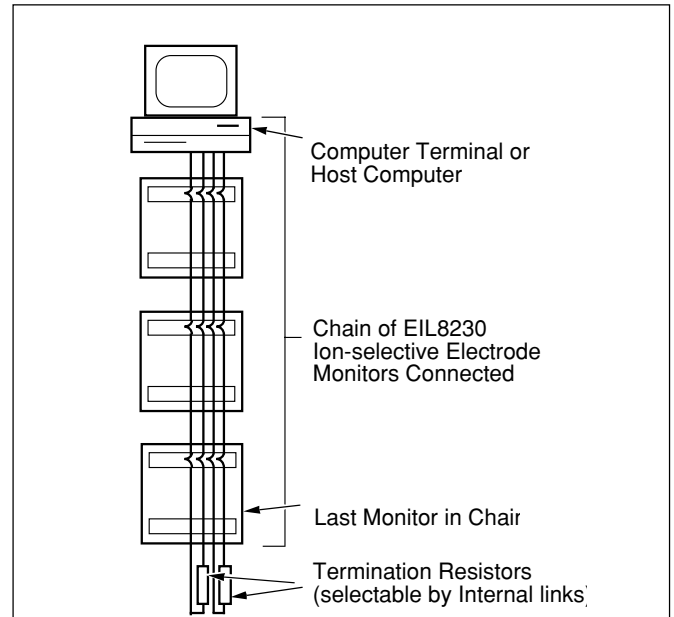

Fig. 3.1 RS422 Connections – Schematic Diagram
3.1 RS422 Connections – Figs. 3.1 and 3.2
Connect the monitors in parallel as shown in the schematic diagram – Fig. 3.1. The RS422 standard quotes connection of ten slaves (EIL8230 series of microprocessor-based ion-selective electrode monitors) maximum to any one driver (computer terminal or host computer). However, this number can be increased if the driver's serial port permits.
N.B. Transmission line termination resistors are required on the last 8230 monitor in the chain – see Fig. 3.1. The resistors are selected by plug-in links within the instrument – see Section 4 overleaf.
Note. For RS422 communication the termination resistors must be linked-in on the **last** EIL8230 ion-selective electrode monitor in the chain only – see Fig. 3.1. The resistors must be linked-out on all other monitors in the chain.